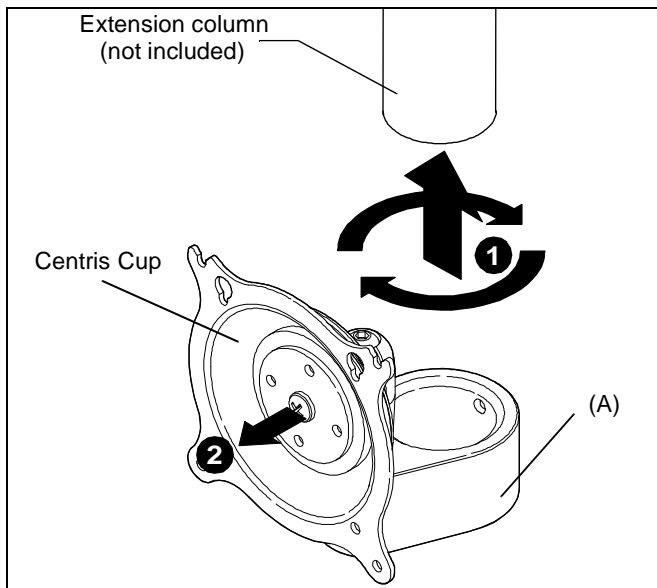

Figure 1
1. Thread FHS assembly (A) onto 1-1/2" NPT or NPSM following ANSI/ASME B1.20.1 (Schedule 40, 0.154" minimum thickness steel or aluminum - ASTM B221) threaded extension column until hand tight, with a minimum of four threads engaged.
2. Adjust FHS assembly (A) position until Centris cup is facing the desired position of the display. (See Figure 1)